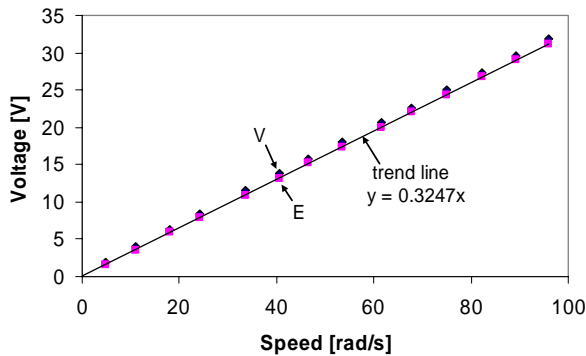

Fig. 4. No-load test : measured terminal voltage and calculated back-emf voltage versus speed data points and the back-emf curve fit.
At each voltage step, the armature voltage  $V$  and current  $I$ , and the speed  $\omega$  should be recorded. The induced voltage  $E$  can be calculated using (3) for each reading and a linear trend-line passing through the origin can be fitted to the results (as shown in Fig. 4).